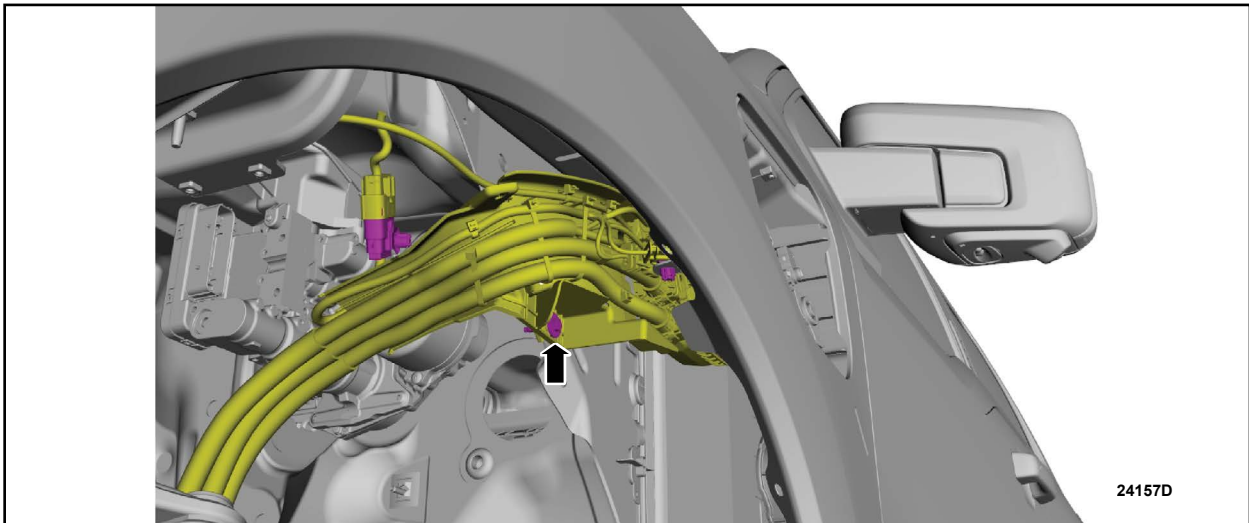

FIGURE 4
5. Remove the charge port cable bolt. See Figure 4. Lower the charge port assembly for easier access.